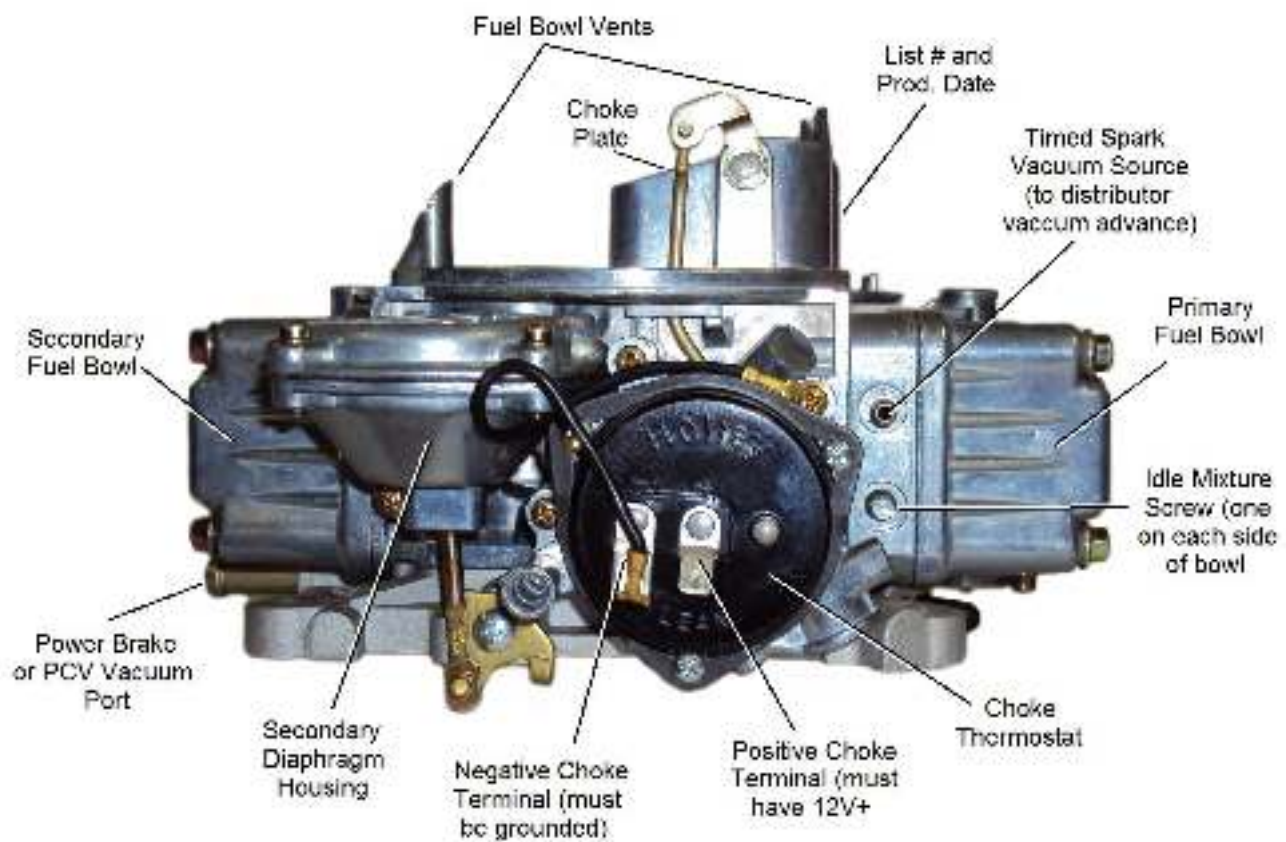
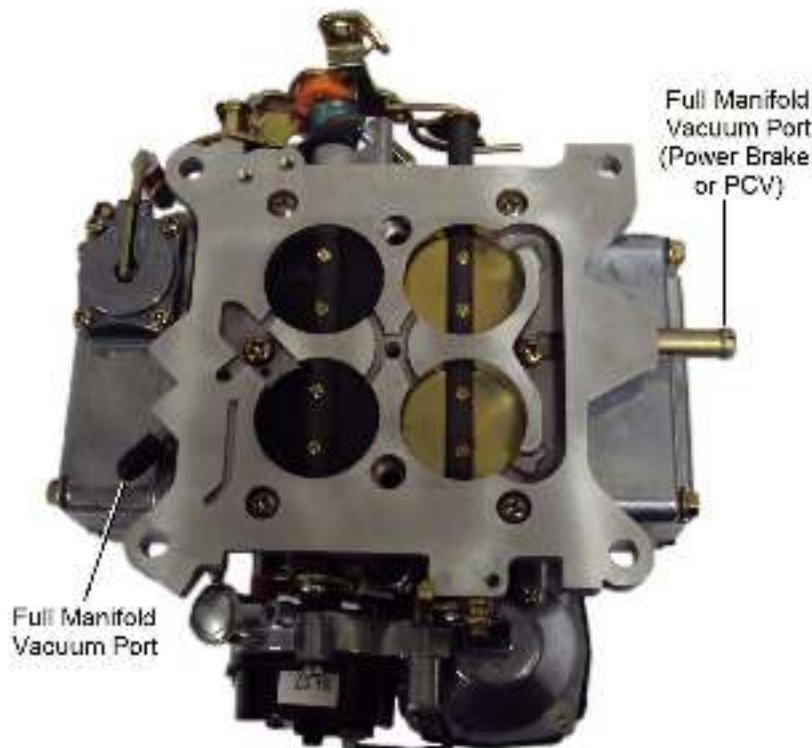

Figure 2a.
Figure 3
6. Reconnect the appropriate vacuum hoses to the carburetor, noting the correct fitting from **Figure 2a** and **Figure 3**. Replace any cracked or dry rotted hoses at this time to prevent any vacuum leaks.
8. Connect the power brake and/or PCV hose to the fitting as shown in **Figure 3**.